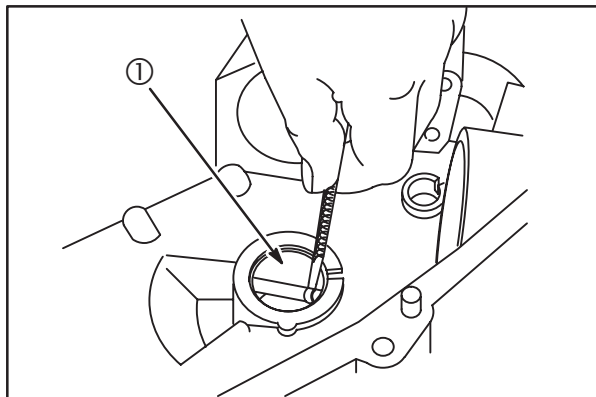

Fig. 9
1. Check magneto bearing for damage. Check for wear at several locations using #19380 plug gauge or appropriate measuring tools, **Fig. 9**. If plug gauge is not available see reject dimension in Section 13.